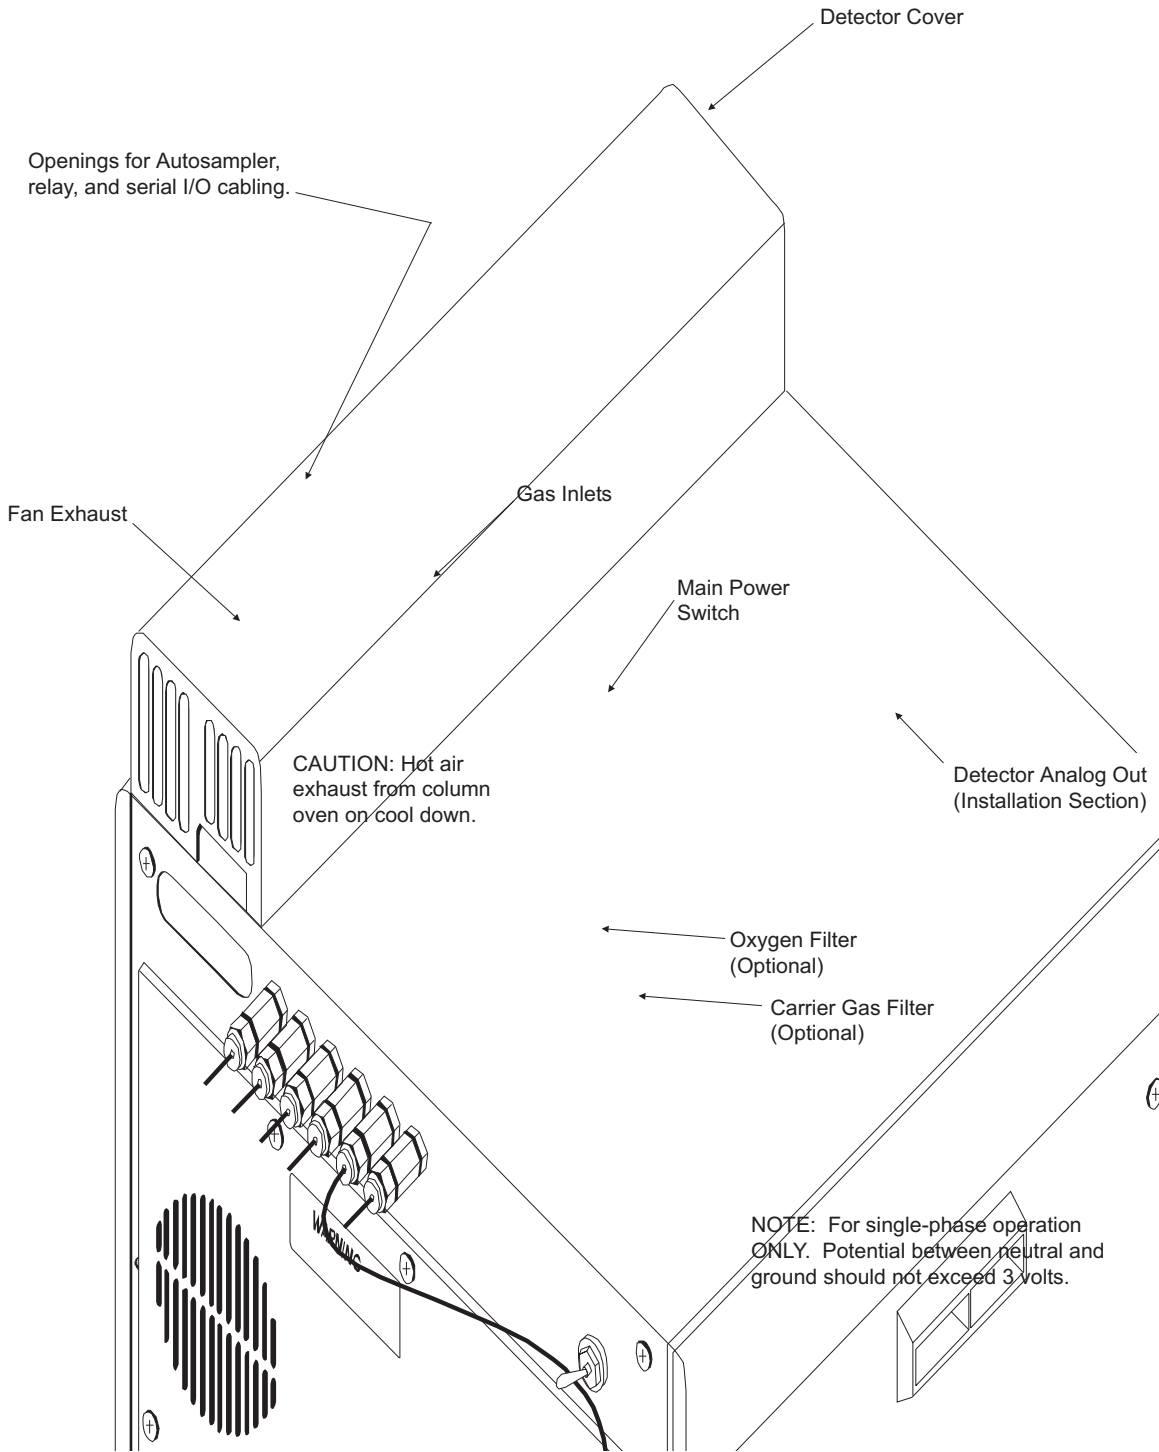
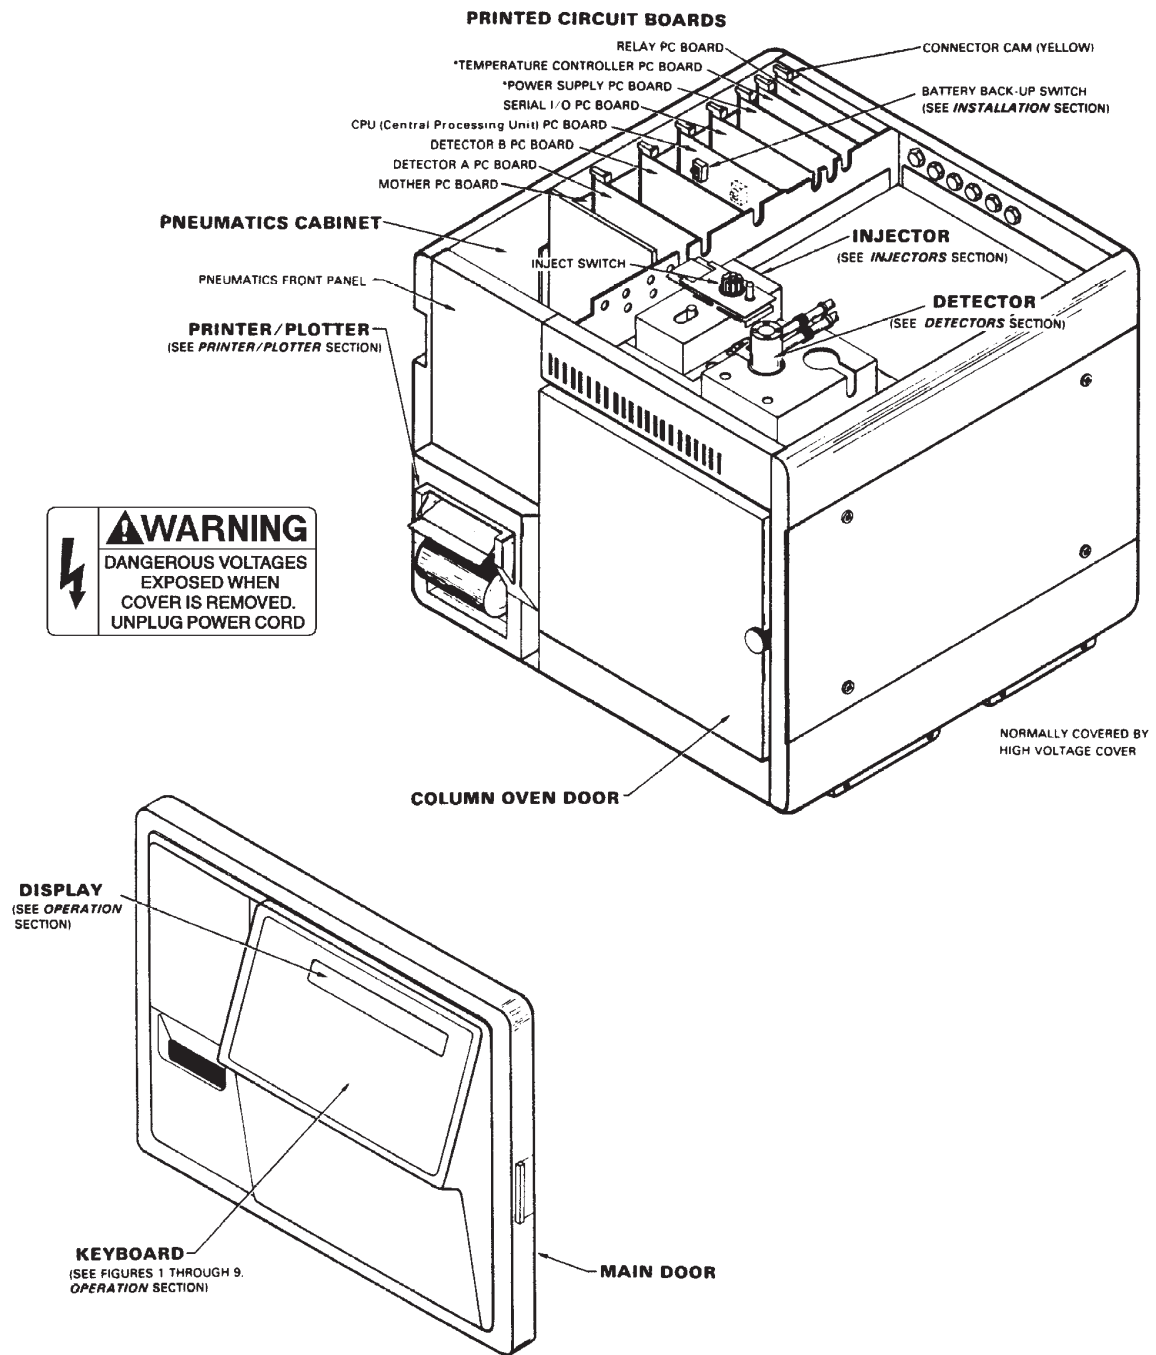

Figure 1 Rear View of GC
Figure 2 Front View of GC
The Varian 3300 Gas Chromatograph (GC) and the Star 3400 CX GC (see Figures 1 and 2) guide you through operation via their one line display. These GCs accommodate standard and capillary injectors and the 8200 CX AutoSampler (Star 3400 CX GC only) for automated operation. Two ionization detectors or one TCD may be installed. The column oven accepts packed or fused silica capillary columns.
Figures 1 and 2 show the locations of switches, fuses, connectors, gas inlets, and various options. Use Figure 2 as a quick reference to other manual sections where detailed information is located.